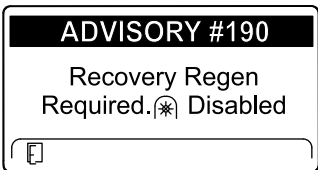

Figure 86
- Recovery regeneration required—power takeoff disabled ADVISORY #190 (Figure 86)